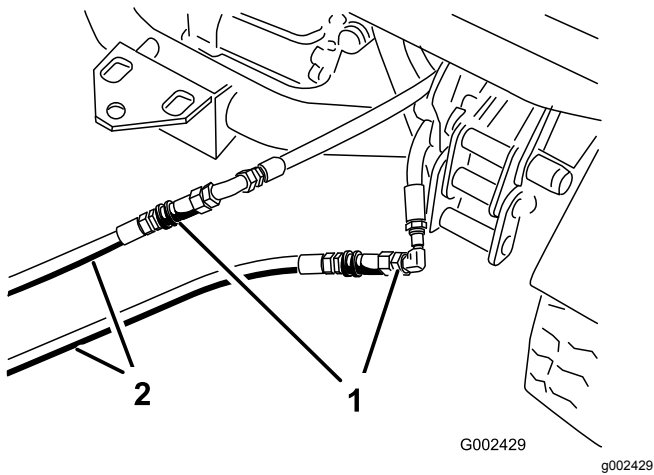

**Figure 83**
2. On both machine, disconnect the 2 quick-coupler hoses from the hoses secured to the coupler bracket (Figure 83).